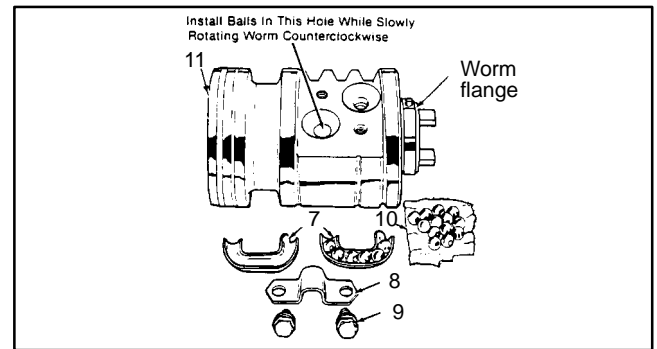

Figure 38
2. Install balls (Fig. 38, Item 7) in ball guide alternately by color. Retain balls in guide with petroleum jelly.